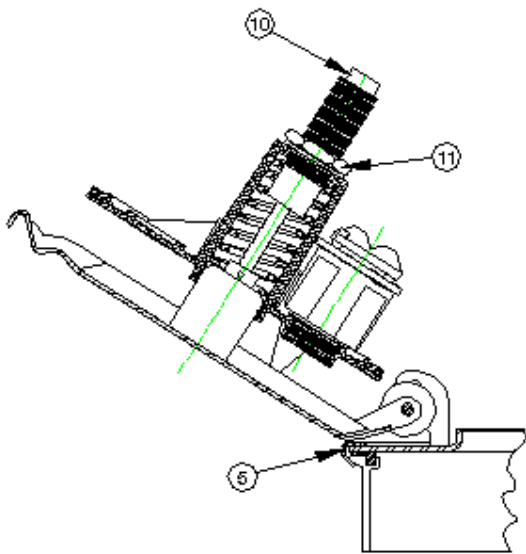

Figure 3
1.	Review Figures 3 and 4 before performing adjustment.
2.	Open Fill cover assembly and lay flat on Clamp ring (5) as shown.
3.	While holding Motion Control Device (M.C.D.) (10) stationary with Wrench, loosen Jam Nut (11) three full turns. This will allow you to adjust the M.C.D.
4.	Adjusting the M.C.D. in or out will affect the height of the Strongback (3) in relation to the Latch (4). The M.C.D. should be adjusted so that with the Fill cover assembly closed on the cover, the latch should just clear the safety catch portion of the Strongback (12).